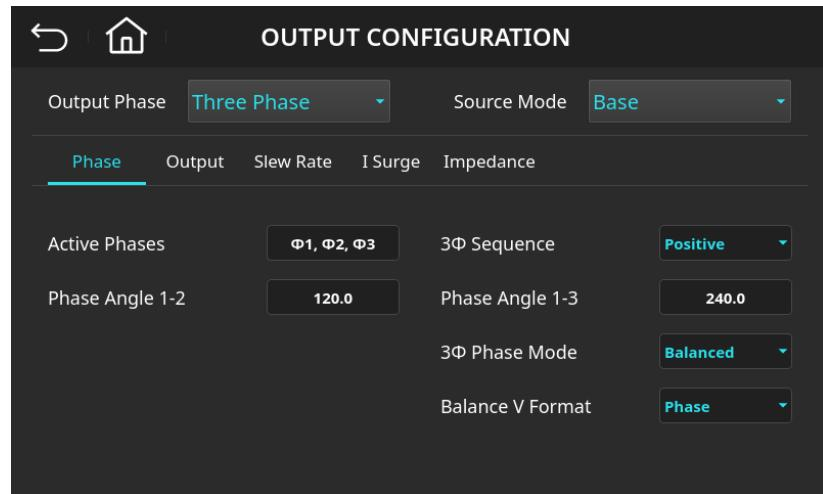

Figure 4-30: Output Configuration (Phase) Page – Balanced Mode with Phase Voltage Setting
5. Select “Phase”, as shown in Figure 4-30.